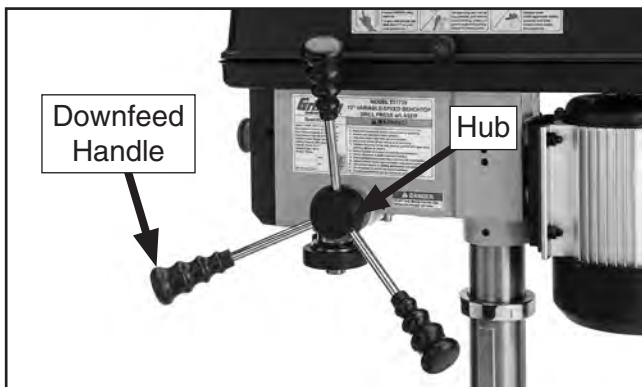

Figure 17. Downfeed handles installed in hub.
- Thread (3) downfeed handles into downfeed hub, as shown in **Figure 17**.